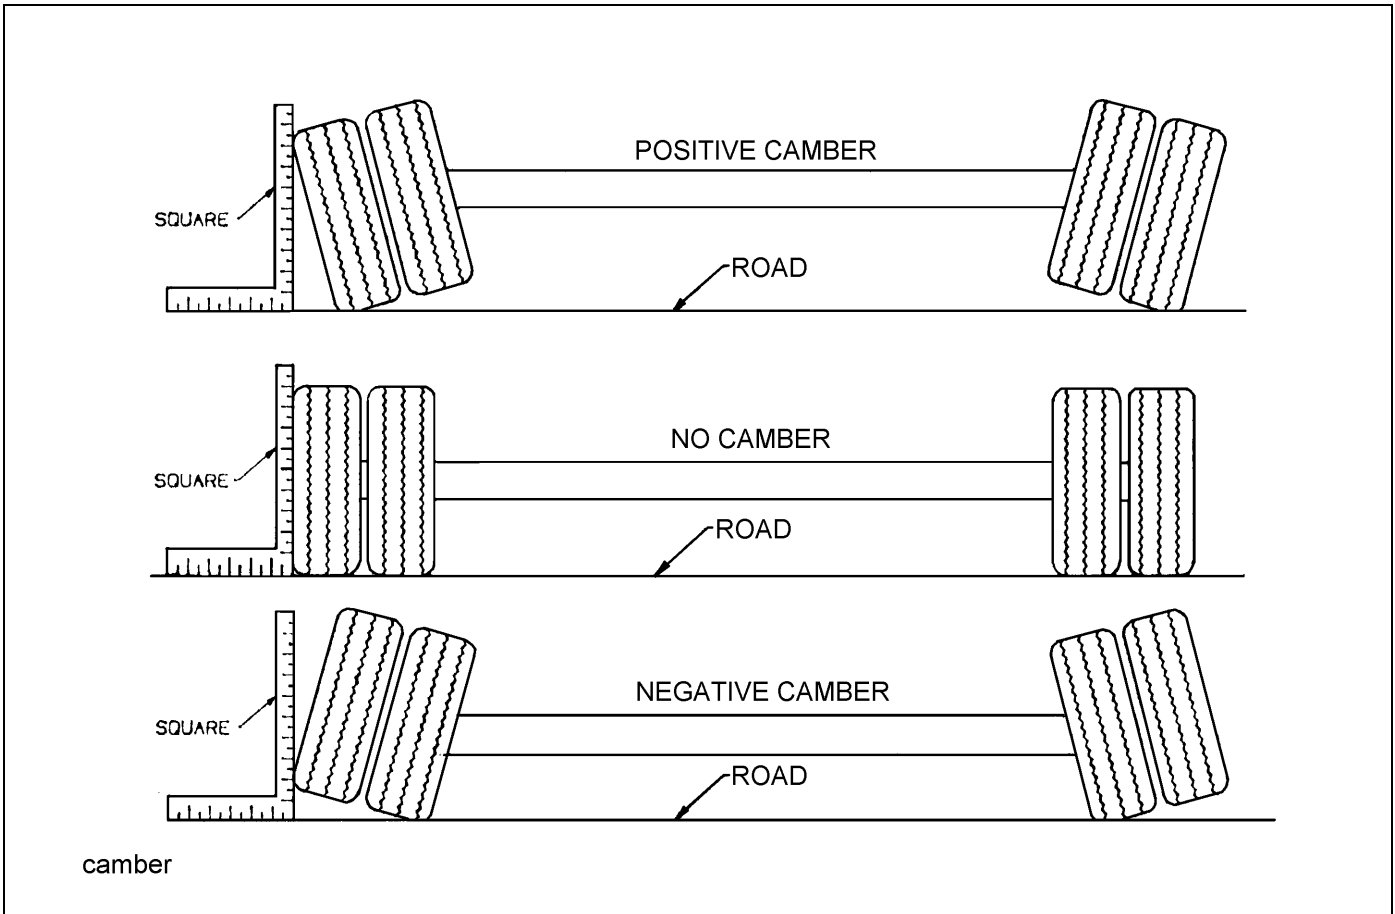

Figure 4-7: Examples of Camber
4. Follow the same procedures as in **steps 2 and 3**, except place the axle gauge above and below the axle. If gauge point gap is found, the axle has positive or negative camber. The trailer axle has no camber from the factory. If it is found to have positive or negative camber, axle replacement is necessary **(See Figure 4-7 for examples of camber).**